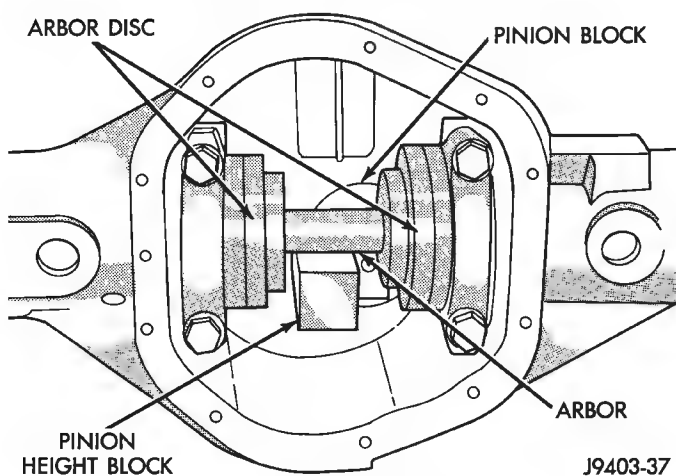

Fig. 48 Gauge Tools In Housing
(4) Place Arbor Disc 6732 on Arbor D-115-3 and position in the bearing cradles (Fig. 48). Install differential bearing caps on Arbor Discs and tighten caps snug only.